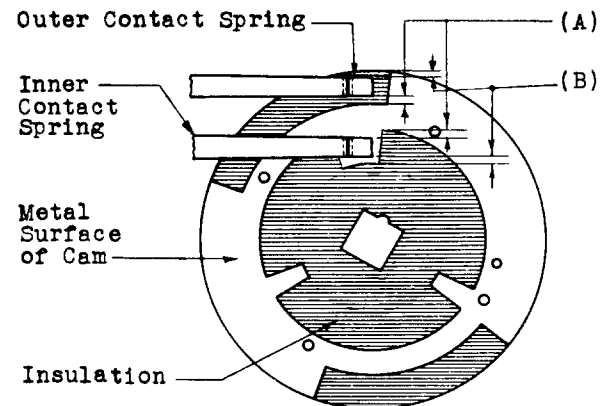

Fig. 6
2.10 Position of Contact Springs With Respect to the Edges of Cams: Fig. 6(B)